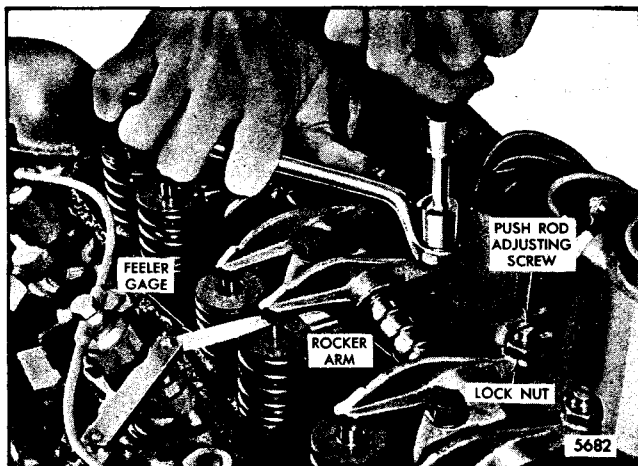

Fig. 1 - Adjusting Valve Clearance
1. Insert a .013" (.33 mm) feeler gage between the valve stem and rocker arm as shown in Fig. 1.